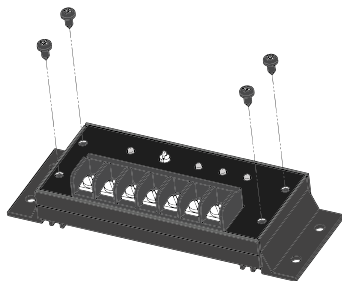

Figure 2b. Remove faceplate screws.
1. Remove all four screws that secure the faceplate on the Controller. See Figure 2b.